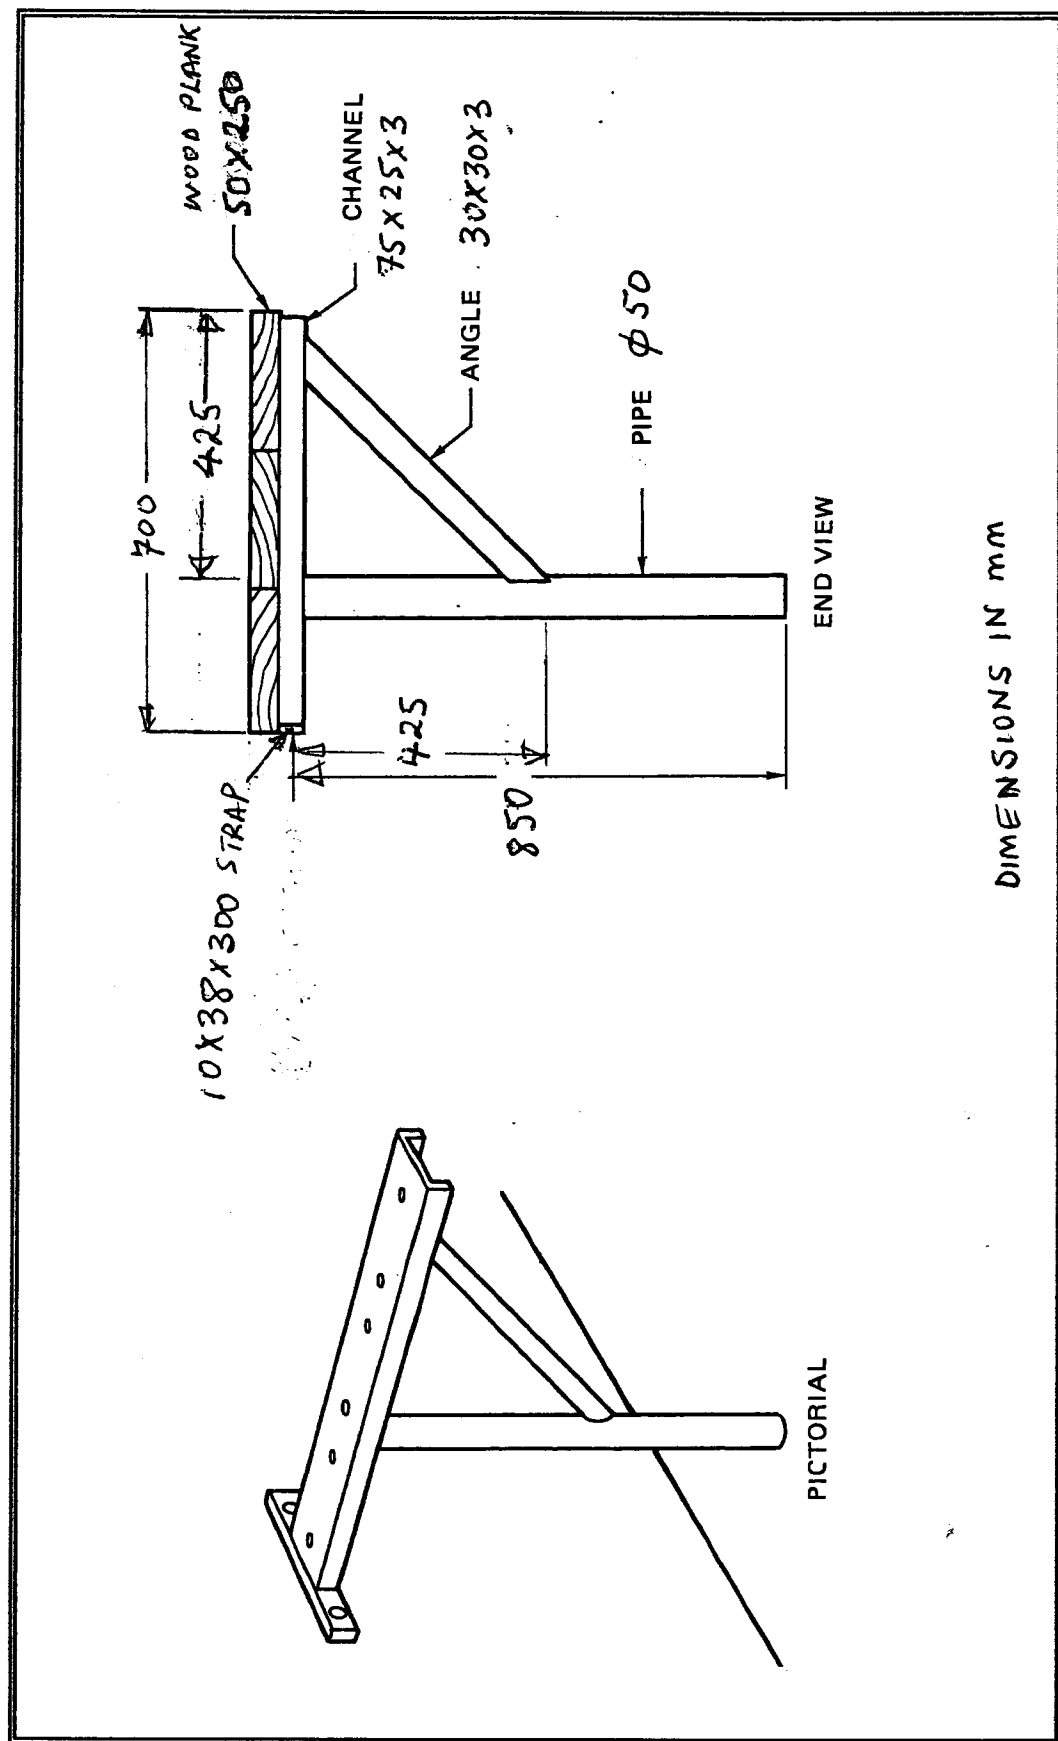

Figure 4. Workbench bracket.
- c) Figure 4 (attached) shows a bracket for workbench. Two such brackets are required per workbench whose top dimensions are 1,5m x 0.9m x 5mm. Prepare a bill of quantities for ten workbenches for ordering from a local hardware store. [14 marks]